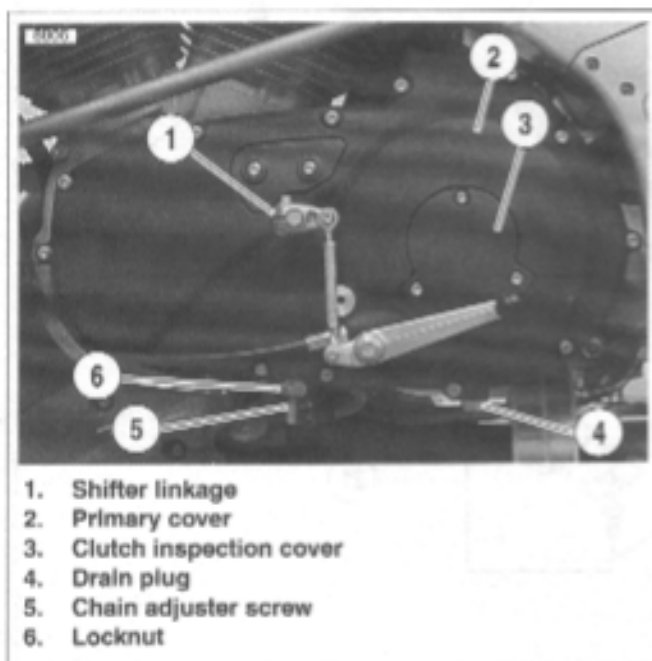

Figure 6-2. Removing Primary Cover
4. See Figure 6-2. Place a drain pan under the engine/primary area. Remove drain plug (4) and drain lubricant from primary drive.
7. See Figure 6-2. Loosen locknut (6). Turn chain adjuster screw (5) counterclockwise to remove tension on primary chain.